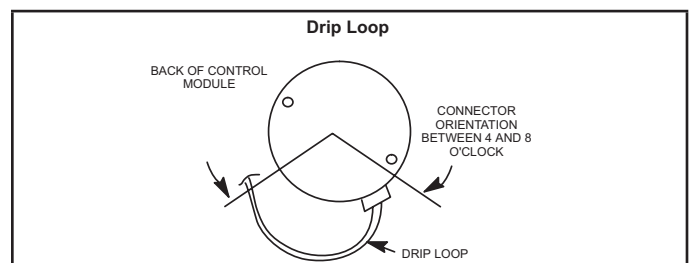

FIGURE 17
- 5 - The electrical connectors of the motor should be facing down to form a drip loop (FIGURE 17). This will direct moisture away from the motor and its electric connections on the motor